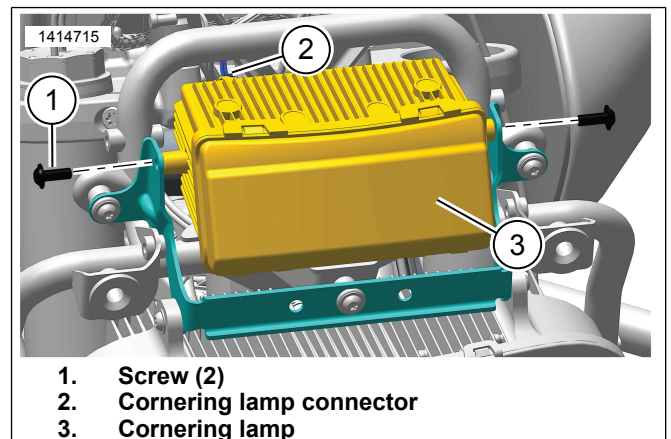

Figure 5. Cornering Lamp
4. See Figure 5. Install cornering lamp (3).
5. Install screws (1). Tighten.